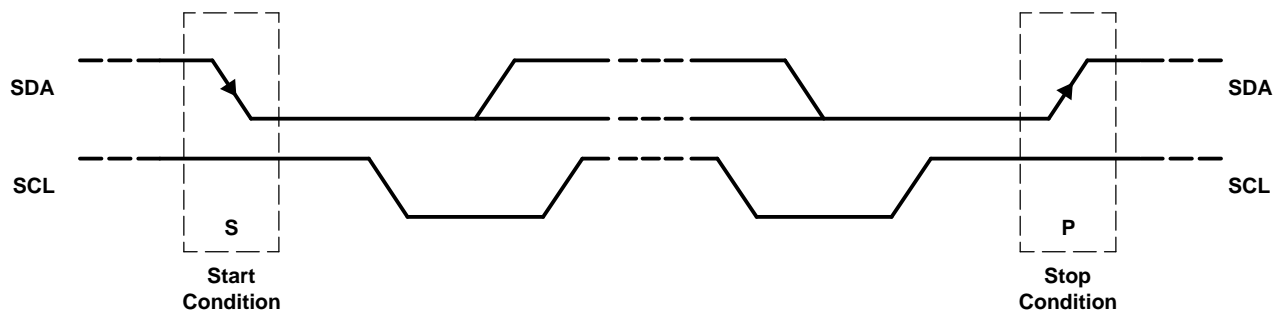

Figure 31. START and STOP Conditions
- The *master* initiates data transfer by generating a *start condition*. The *start condition* is when a high-to-low transition occurs on the SDA line while SCL is high, as shown in Figure 31. All I²C-compatible devices should recognize a *start condition*.
- To signal the end of the data transfer, the master generates a *stop condition* by pulling the SDA line from low to high while the SCL line is high (see Figure 31). This releases the bus and stops the communication link with the addressed slave. All I²C compatible devices must recognize the stop condition. Upon the receipt of a *stop condition*, all devices know that the bus is released, and they wait for a *start condition* followed by a matching address.